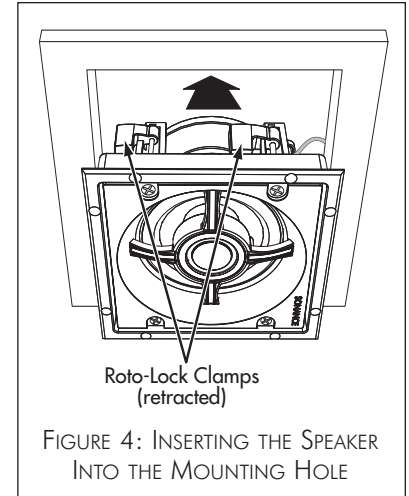

FIGURE 4: INSERTING THE SPEAKER INTO THE MOUNTING HOLE
4. Make sure all the Roto-Lock clamps are retracted so that they are tucked within the mounting hole's border. Insert the speaker into the hole in the ceiling (*Figure 4*). The Roto-Lock system can accommodate a maximum ceiling material thickness of 1 1/4" (32mm).